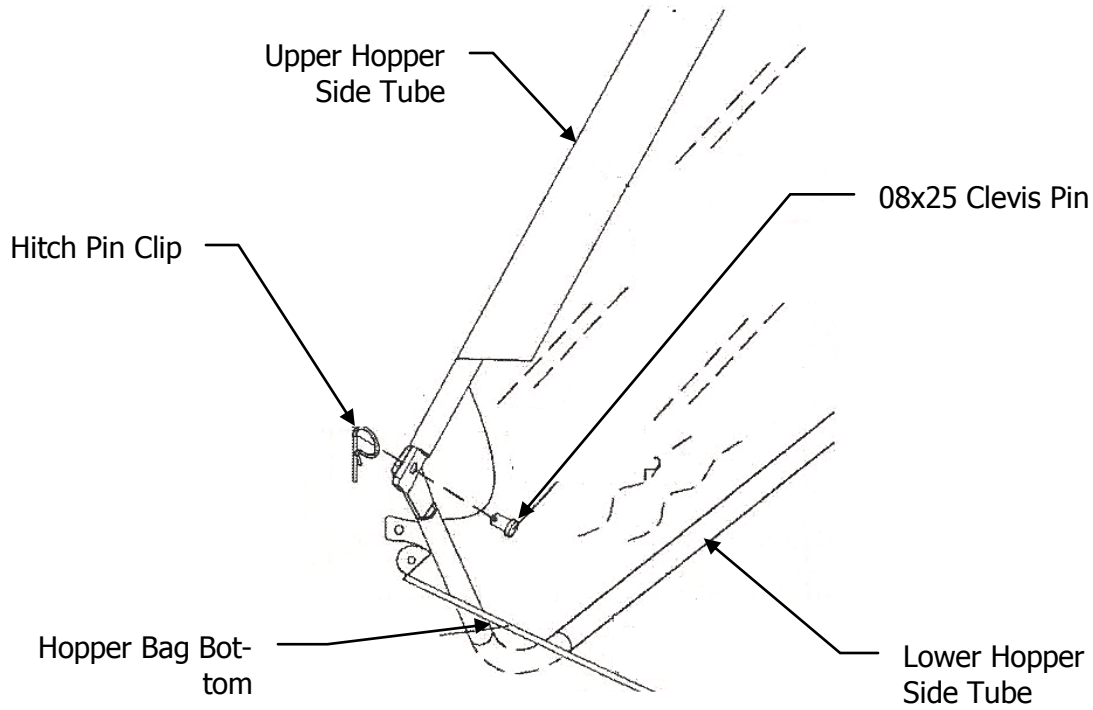

Figure 13
13. Attach the ends of the Lower Hopper Side Tubes to the inside of the Upper Side Tubes using two 08x25 Clevis Pins, insert them from the inside and secure with two Hitch Pins Clips. See Figure 13.